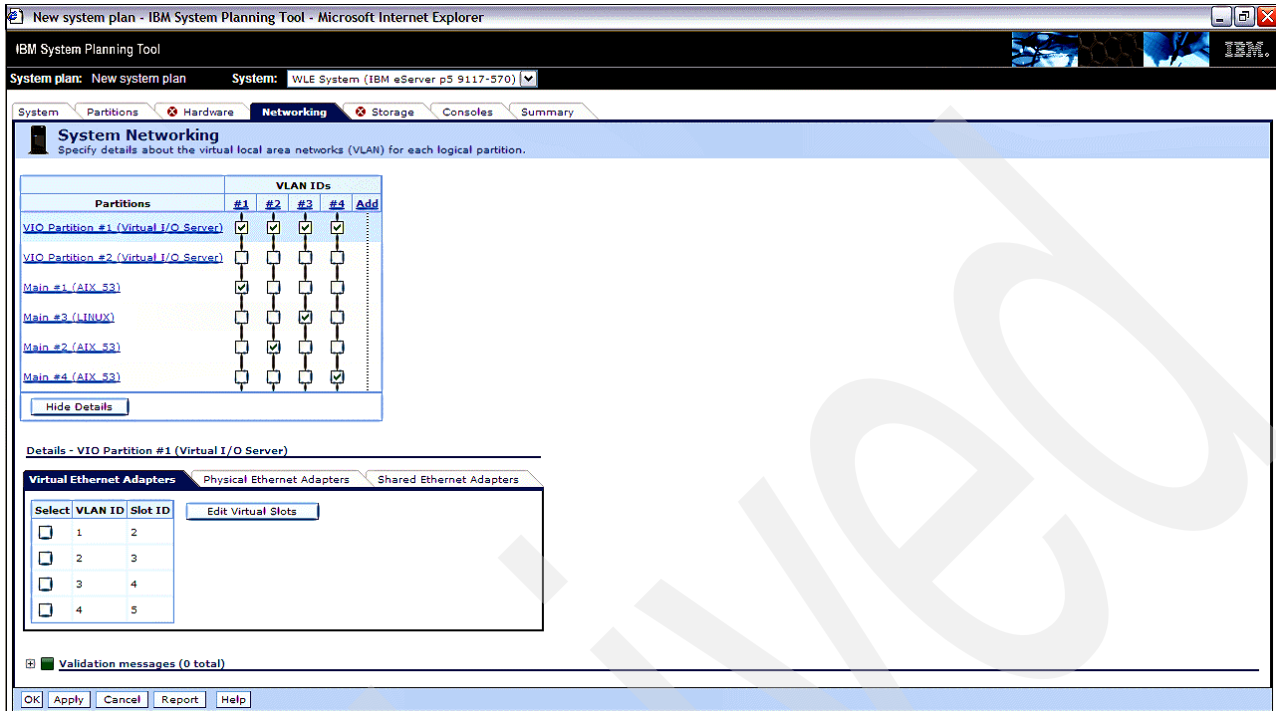

Figure 5-40 Virtual LAN definition
20. WLE has defined the VLAN for you. Figure 5-40 shows the VLAN. For further explanation see 4.3, “Define Virtual I/O Server in System Planning Tool Version 2” on page 106.